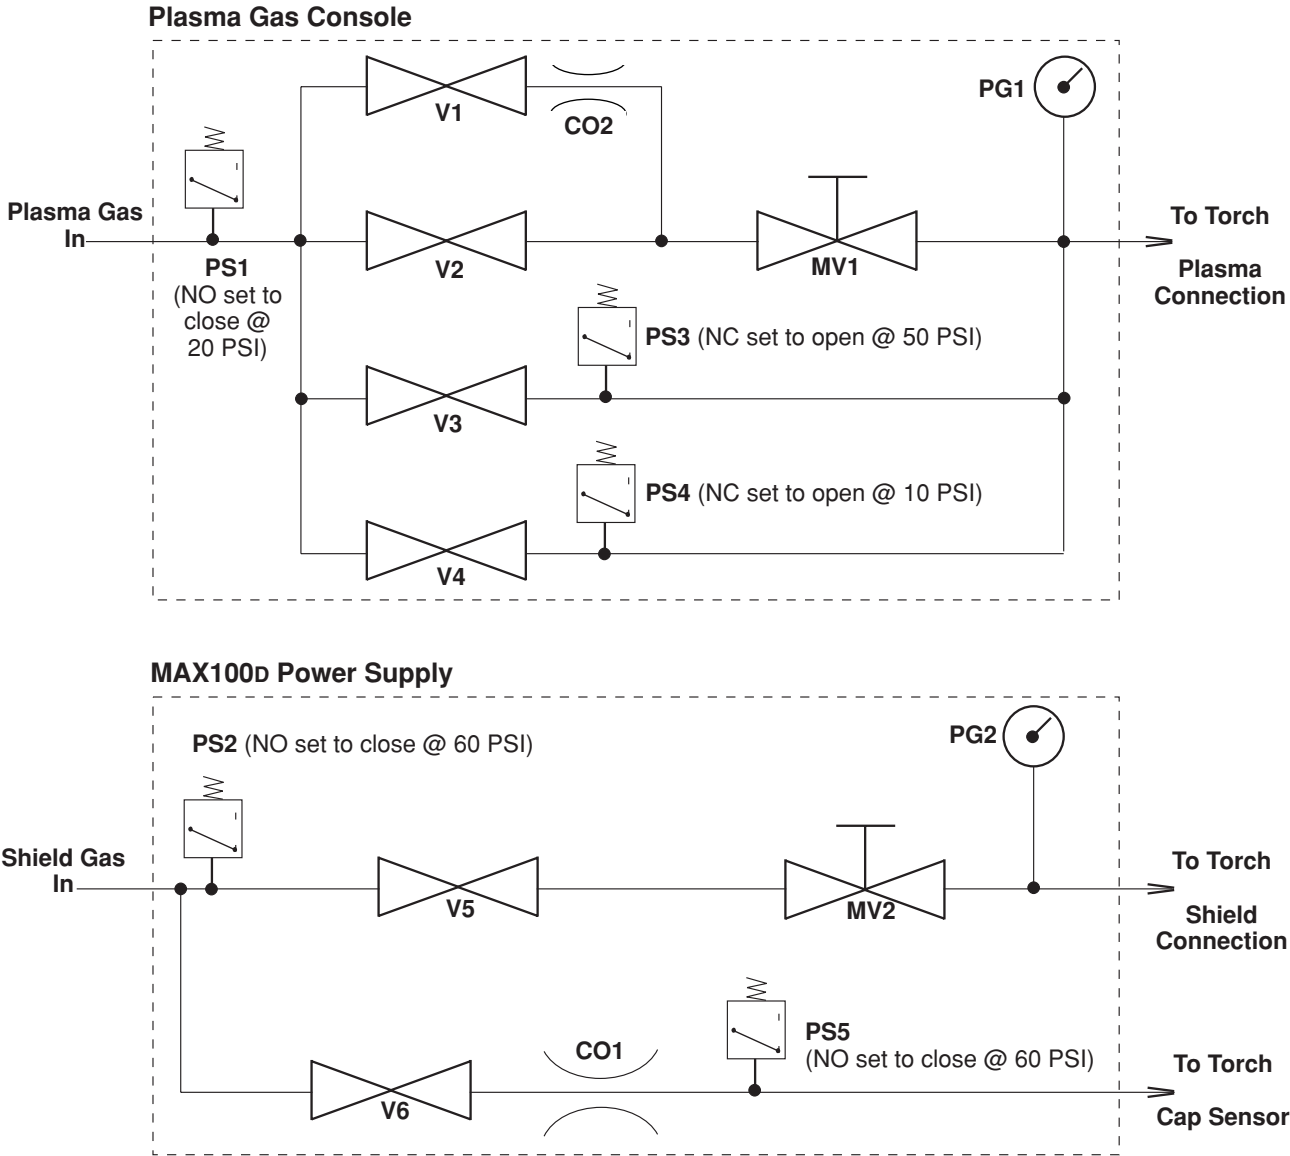

Figure 5-6 MAX100d System Plasma and Shield Gas Flow Schematic
1. Observe D8 on PCB4 (see Figure 5-6) and see if it illuminates after main contactor closes (see sequence flowchart earlier in this section). If it does not illuminate, continue to next step. If it does illuminate, return to *Troubleshooting* section.